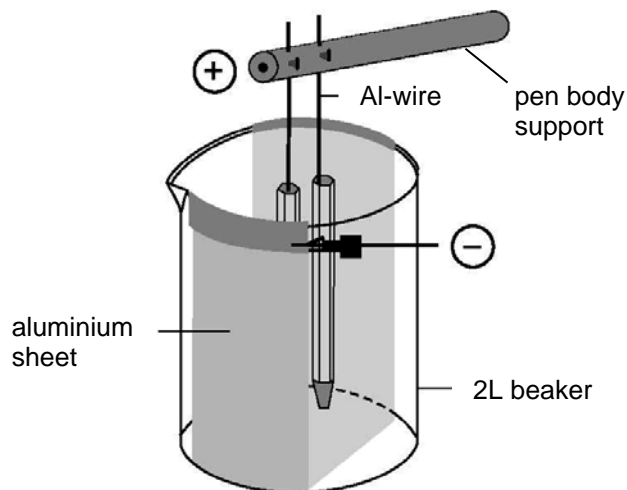

Figure 2: The setup of the apparatus
3. Set up the apparatus according to the sketch below (Fig. 2). Before you fill up the beaker with sulphuric acid, the aluminium sheet cathode has to be adjusted. It should be closely fitted to the beaker and touch its bottom. The alligator clip is attached to the aluminium sheet on the outside of the beaker as shown in the drawing.